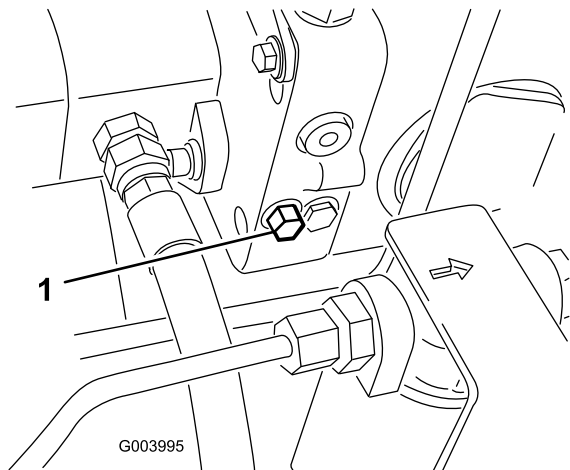

Figure 19
1. The bypass valve is located on the left side of the hydrostat (Figure 19). Rotate the bolt 1-1/2 turns to open and allow oil to bypass internally. Because fluid is bypassed, the machine can be moved slowly without damaging the transmission.